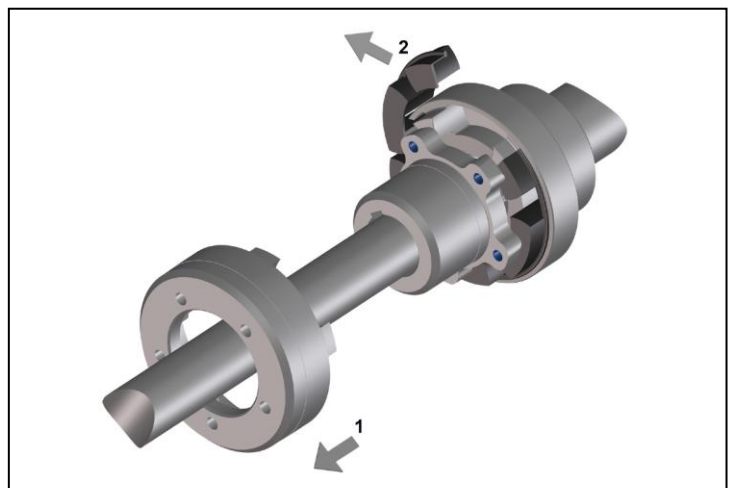

Fig. 9
- Remove the fixing screws on the claw ring and push it back (Fig. 9, Pos. 1).
- Cut through the intermediate ring at a connecting part (Fig. 9, pos. 2).